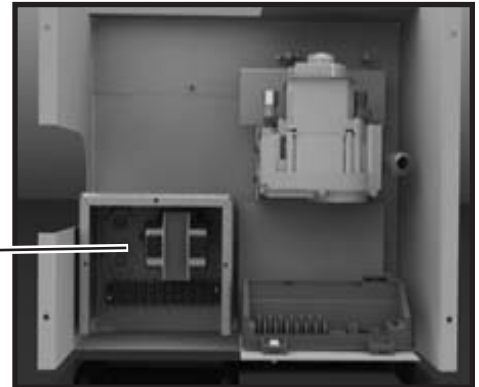

Figure 26: Electrical connections.
5. Run one 110 V. AC switched electrical supplies to the control box and connect to the transformer (Figure 26). The fireplace operates on 24V AC supplied by a transformer rated at 110 volts, 60Hz. See wiring diagram on page 29 for correct connections on terminal block.